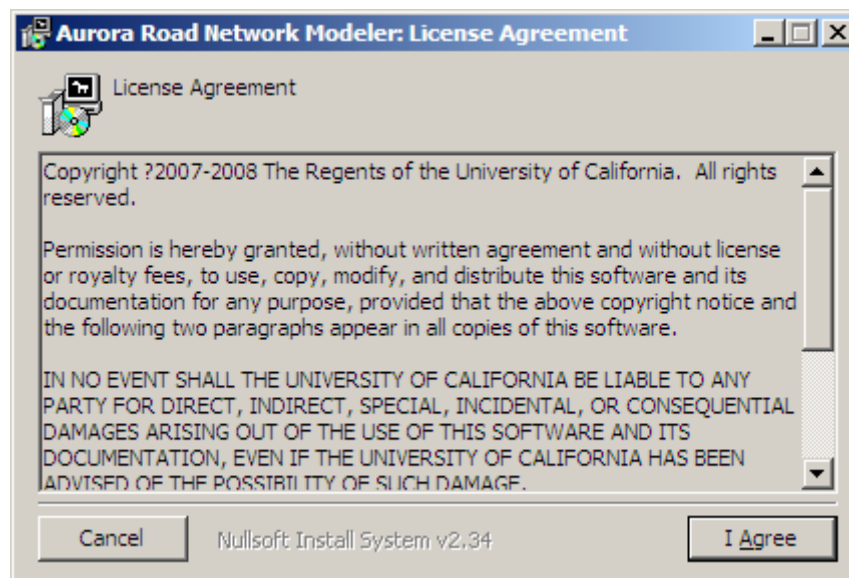

Figure 3-1: License agreement.
3. Read the License Agreement and press **I Agree** if you agree with the license agreement (Figure 3-1).